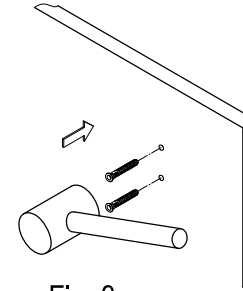

Fig. 3
- Step 5. Hammer in the drywall anchors until flush with the wall (fig 3).
- Step 4. Remove the mounting bracket from wall and use a 1/4" drill bit to pre-drill holes in the drywall where pencil marks are drawn (fig 3).